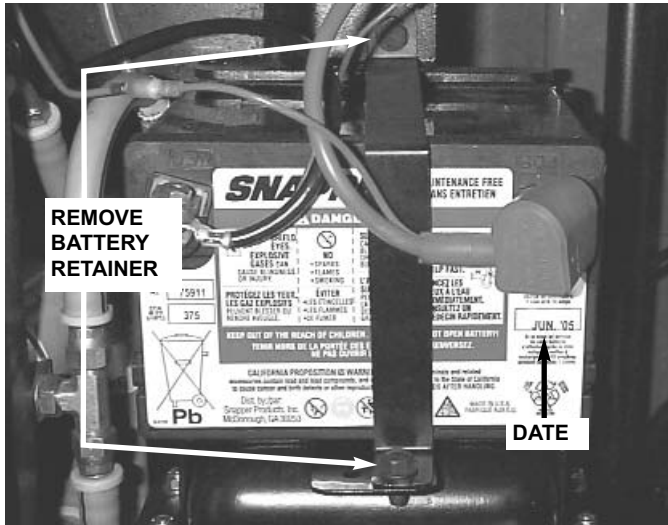

FIGURE 5.17
1. Remove battery retainer. See Figure 5.17.
3. Observe and note cable positions on battery. Disconnect cables from battery terminals, disconnecting BLACK (Negative) cable first and RED (Positive) last. Retain mounting bolts and nuts. See Figure 5.17.
3. Reinstall battery retainer and positive terminal cover. See Figure 5.17.
3. Check date on battery label. See Figure 5.17. If battery is placed into service after the date shown, charge battery. Refer to section "BATTERY CHARGING".